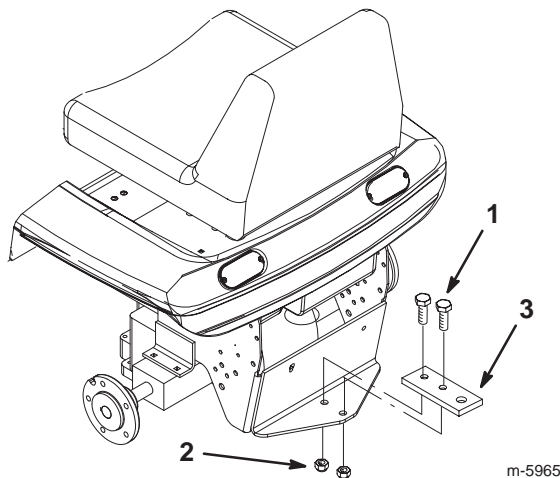

Figure 4
5. Install the tow hitch extension to the tractor using 2 bolts (1/2 x 1-1/4 in.) and 2 locknuts (1/2 in.) (Fig. 4).